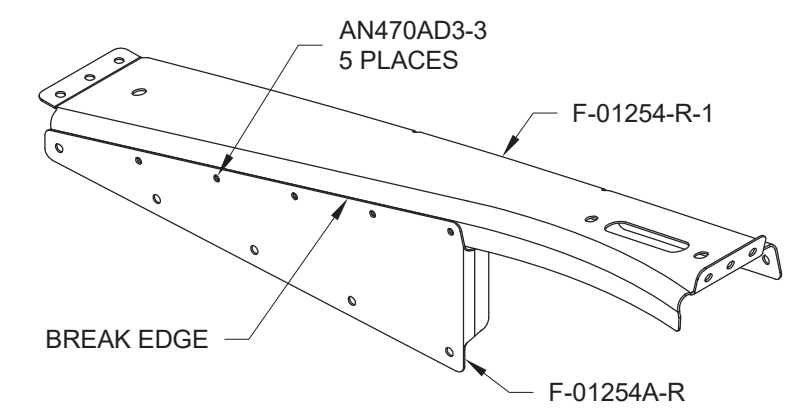

FIGURE 6: ROLL BAR SUPPORT ASSEMBLY
Step 12: For a better fit when riveted, lightly break the top edge of F-01254A-L & -R in the same direction as the flange at the end of the parts. See Figure 6.
Step 13: Deburr, cleco, then rivet the F-01254A-R onto the F-01254-R-1 as shown in Figure 6 to create the Roll Bar Support Assembly. Mirror for the left side.